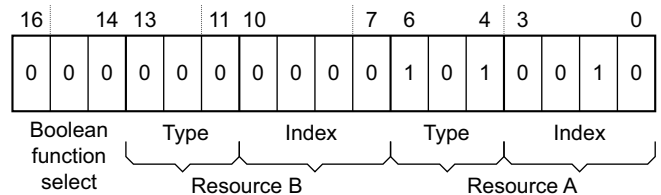

Figure 3-75 ETMVDEVR example
1. Program ETMVDEVR as Figure 3-75 shows.